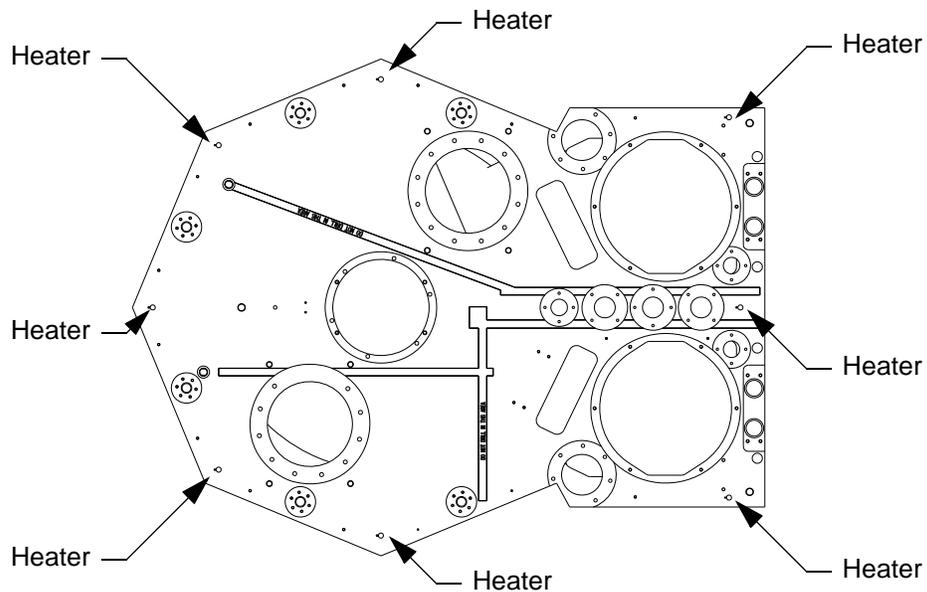
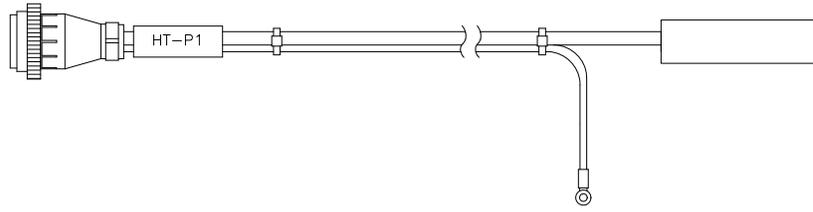

Figure 5-12: Chamber Heating System, Typical
Figure 5-13: Cartridge Heater Assembly
Up to eight Heater Cartridge assemblies (1200 W @ 240 VAC) are positioned around the bottom of the Transport Chamber (TC), as shown in Figure 5-12. Each Heater Cartridge is made into a subassembly for quick replacement as shown in Figure 5-13. The Temperature Controller uses a thermocouple attached to the TC to monitor the TC temperature and a thermal switch to provide over-temperature protection.